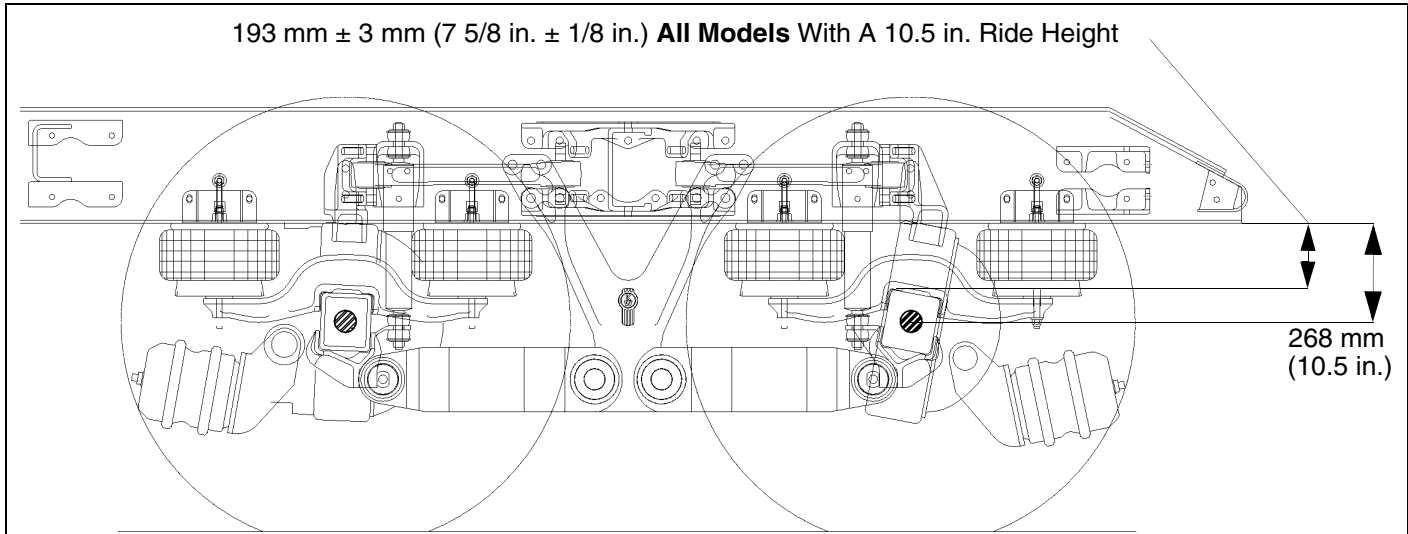

Figure 15-8
- AG460 / AG690 With 10.5 in. Ride Height: 193 mm \pm 3mm (7-5/8 in. \pm 1/8 in.) See Figure 15-8.